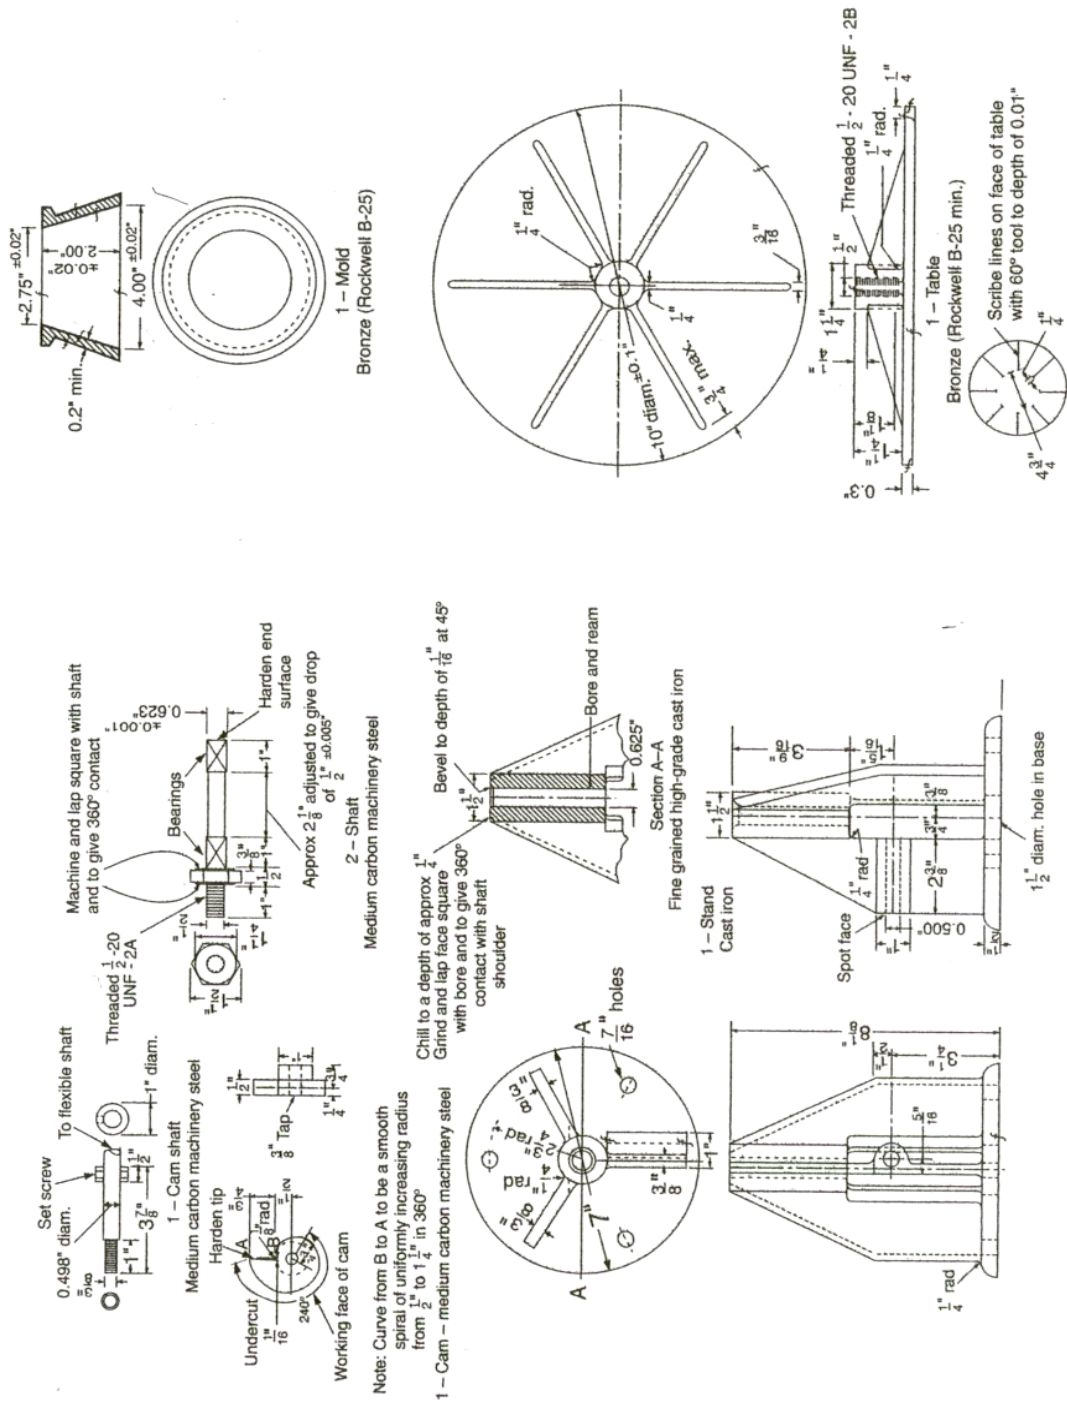

Figure 3
3.1.1.1 The flow table apparatus shall be constructed in accordance with figure 3. The apparatus shall consist of an integrally cast rigid iron frame and a circular rigid table top, 10 inches \pm 0.1 inch (254 mm \pm 2.5 mm) in diameter, with a shaft attached perpendicular to the table top by means of a screw thread. The table top, to which the shaft with its integral contact shoulder is attached, shall be mounted on a frame in such a manner that it can be raised and dropped vertically through the specified height, with a tolerance in height of \pm 0.005 inches (0.13 mm) for new tables and \pm 0.015 inches (0.39 mm) for tables in use, by means of a rotated cam. The table top shall have a fine-machined plane surface, free of blowholes and surface defects, and shall be scribed as shown in figure 3. The table top shall be of cast brass or bronze having a Rockwell hardness number not less than HRB 25 with an edge thickness of 0.3 inches (8 mm), and shall have six integral radial stiffening ribs. The table top and attached shaft shall weigh 9 lb \pm 0.1 lb (4 kg \pm 0.05 kg) and the weight shall be symmetrical around the centre of the shaft.
3.1.1.2 The cam and vertical shaft shall be of medium-carbon machinery steel, hardened where indicated in figure 3. The shaft shall be straight and the difference between the diameter of the shaft and the diameter of the bore of the frame shall be not less than 0.002 inches (0.05) and not more than 0.003 inches (0.08 mm) for new tables and shall be maintained at from 0.002 inches to 0.010 inches (0.26 mm) for tables in use. The end of the shaft shall not fall upon the cam at the end of the drop, but shall make contact with the cam not less than 120° from the point of drop. The face of the cam shall be a smooth spiralled curve of uniformly increasing radius from ½ inch to 1¼ inches (13 mm to 32 mm) in 360° and there shall be no appreciable jar as the shaft comes into contact with the cam. The cam shall be so located and the contact faces of the cam and shaft shall be such that the table does not rotate more than one revolution in 25 drops. The surfaces of the frame and of the table which come into contact at the end of the drop shall be maintained smooth, plane, and horizontal and parallel with the upper surface of the table and shall make continuous contact over a full 360°.
3.1.4.1 The mould for casting the flow specimen shall be of cast bronze or brass, constructed as shown in figure 3. The Rockwell hardness number of the metal shall be not less than HRB 25. The diameter of the top opening shall be 2.75 inches \pm 0.02 inches (69.8 mm \pm 0.5 mm) for new moulds and 2.75 inches + 0.05 inches (+ 1.3 mm) and – 0.02 inches for moulds in use. The surfaces of the base and top shall be parallel and at right angles to the vertical axis of the cone. The mould shall have a minimum wall thickness of 0.2 inches (5 mm). The outside of the top edge of the mould shall be shaped so as to provide an integral collar for convenient lifting of the mould. All surfaces shall be machined to a smooth finish. A circular shield approximately 10 inches (254 mm) in diameter, with a centre opening approximately 4 inches (102 mm) in diameter, made of non-absorbing material not attacked by the cement, shall be used with the flow mould to prevent mortar from spilling on the table top.